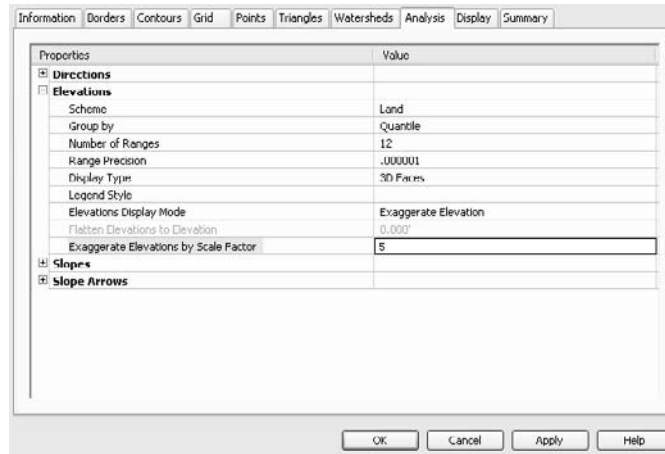

Figure 1.14
11. Change the Elevation Display Mode to **Exaggerate Elevation**, and then change the Exaggerate Elevations by Scale Factor to 5. The Analysis dialog should now look like Figure 1.14.